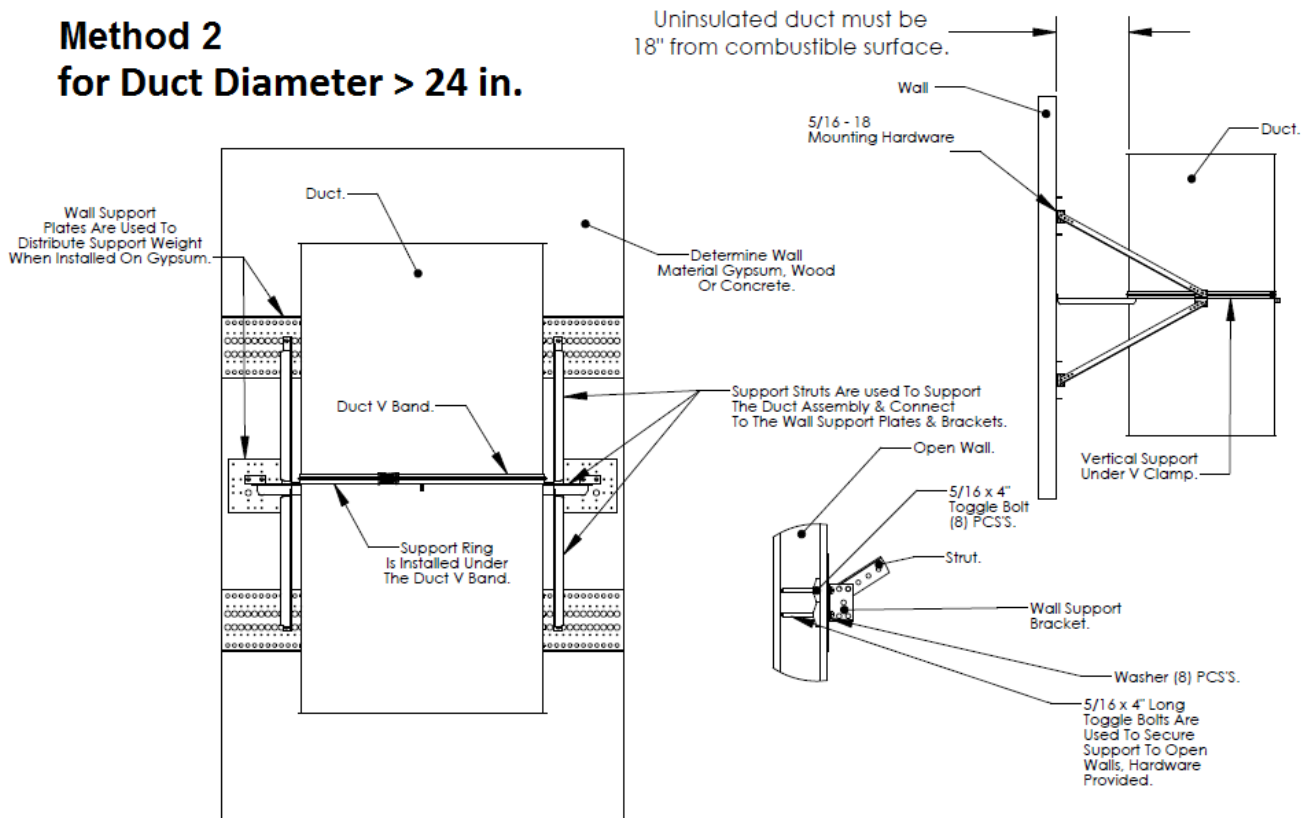

Figure 4. Vertical Wall Supports
- B. **VERTICAL SUPPORTS (Wall)** – Refer to Figure 4 for depiction of Method 1 and Method 2 installations. Use the vertical support assemblies supplied by the duct manufacturer and consisting of the following 12 GA steel components:
- Where the pre-fabricated grease duct (Item 1) is installed vertically along a wall as depicted in Figure 4 below, provide supports spaced as follows: